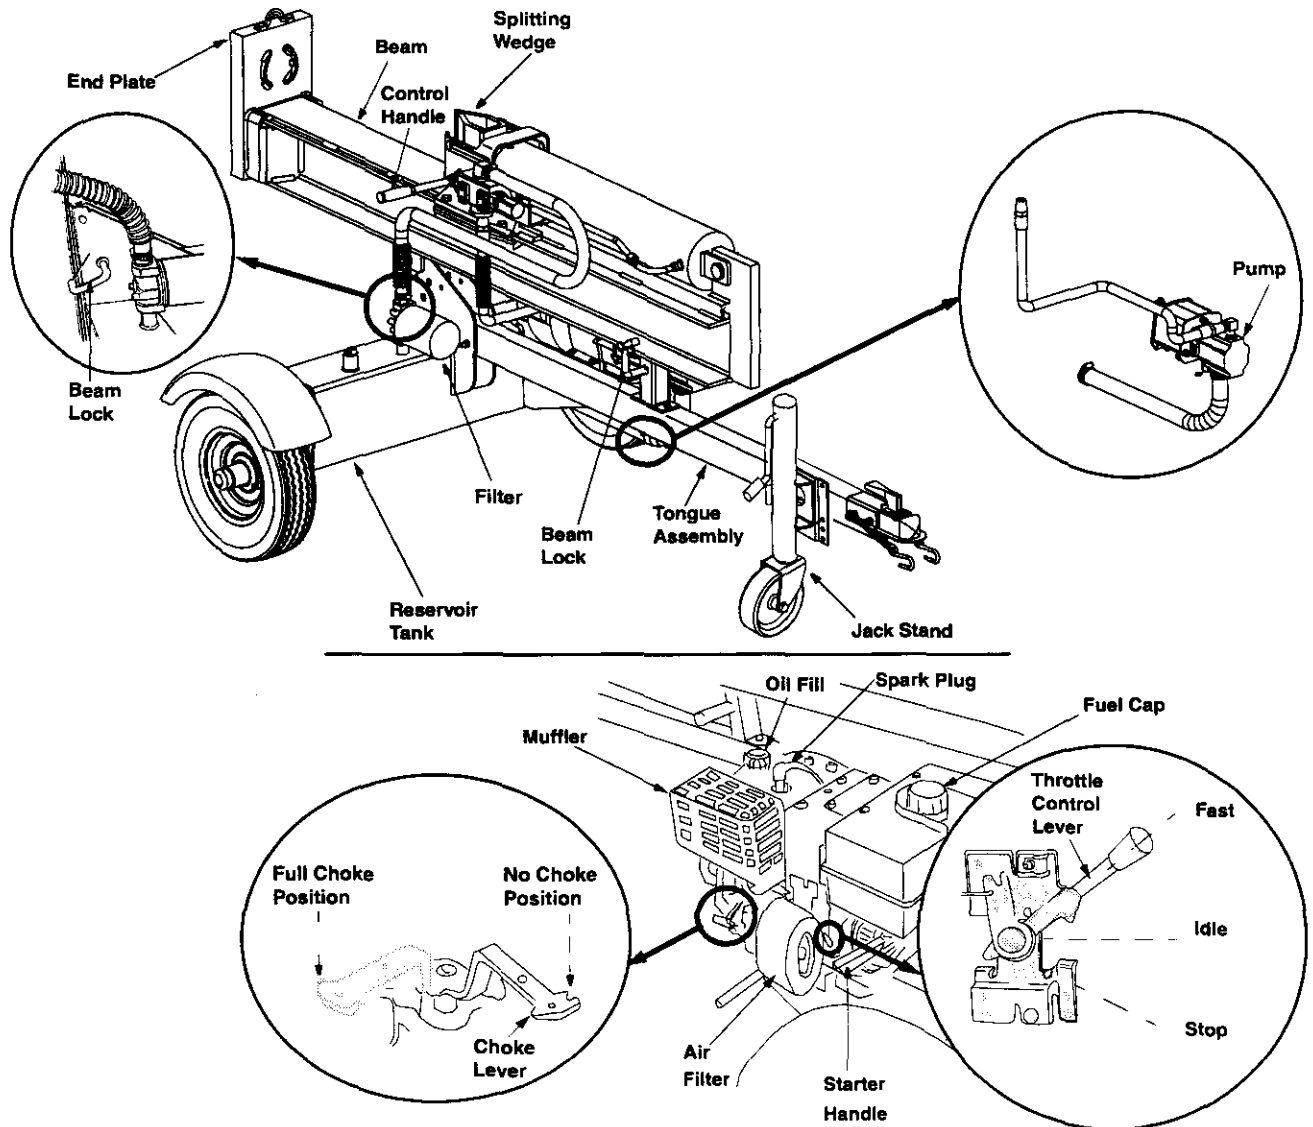
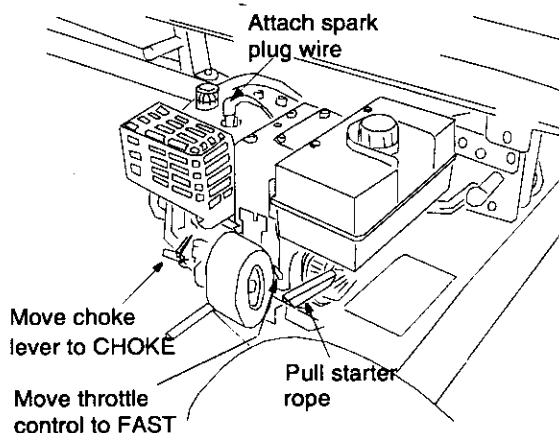

Figure 6
Figure 9
(See Figure 6.)
- Remove fuel cap. See Figure 6.
- Attach spark plug wire and rubber boot to spark plug. See Figure 9.
- Place the throttle control lever in FAST position. See Figure 6 and Figure 9.